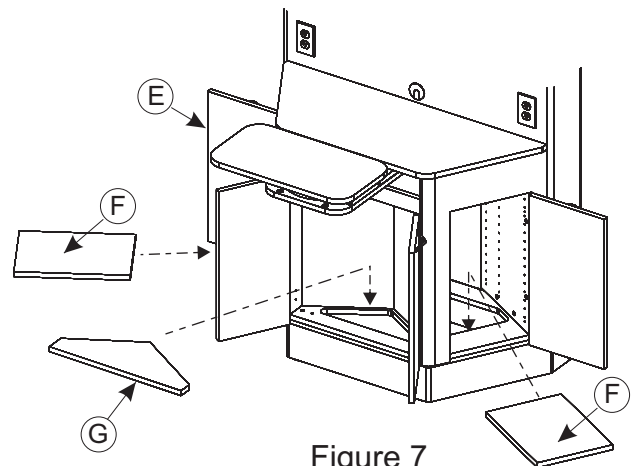

Figure 7
Open all Doors (E) and replace the Bottom Covers (F & G) (see Figure 7). You may need to tilt the bottom covers to clear the door openings.